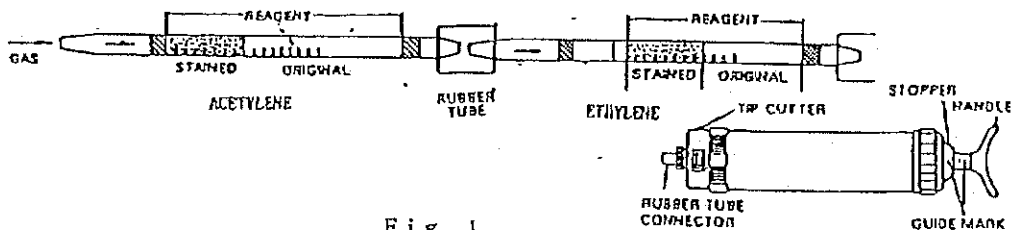

Fig. 1
- ① Break both ends of each detector tube, and connect each end of detector tubes with a rubber tube as shown in Fig. 1. (Arrow mark shall point to the pump.)
- ② Insert the ETHYLENE detector tube into aspirating pump securely as shown in Fig. 1. (Arrow mark shall point to the pump.)
- ③ Align the guide marks on the shaft and stopper of the aspirating pump.
- ④ Pull pump handle to full stroke until it locks and wait for 3 minutes or until confirmation that sampling is completed (See descriptions of the flow indicator in the pump instructions).